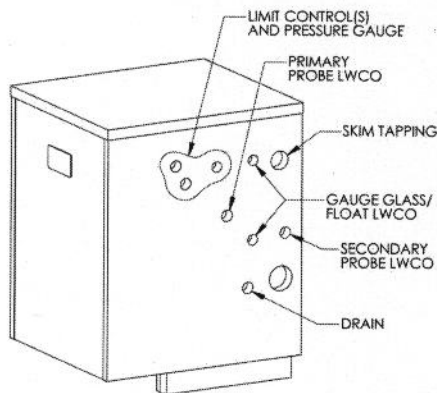

Figure 6.2: Boiler Tapping Location
Install the 3/4" drain valve provided into the drain tapping on the right hand side of the boiler. Refer to Figure 6.2 for tapping location.
- b. **Probe Type:** Install the optional probe type low water cut-off into the 3/4" tapping on the right side of the boiler. Refer to Figure 6.2 for tapping location. The supplied control incorporates a 60 second off cycle after a 15 minute on cycle. This feature allows the water level in the boiler to settle so that the probe can sense a true water level.
Install the operating limit control and pressure gauge in the 3/4" tappings located on the right side of the boiler. Refer to Figure 6.2 for tapping location.